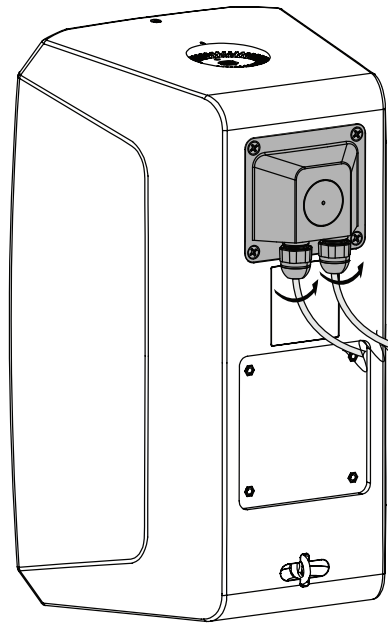

Figure 18
- Tighten the cabling nozzle caps until snug.(Figure 18)